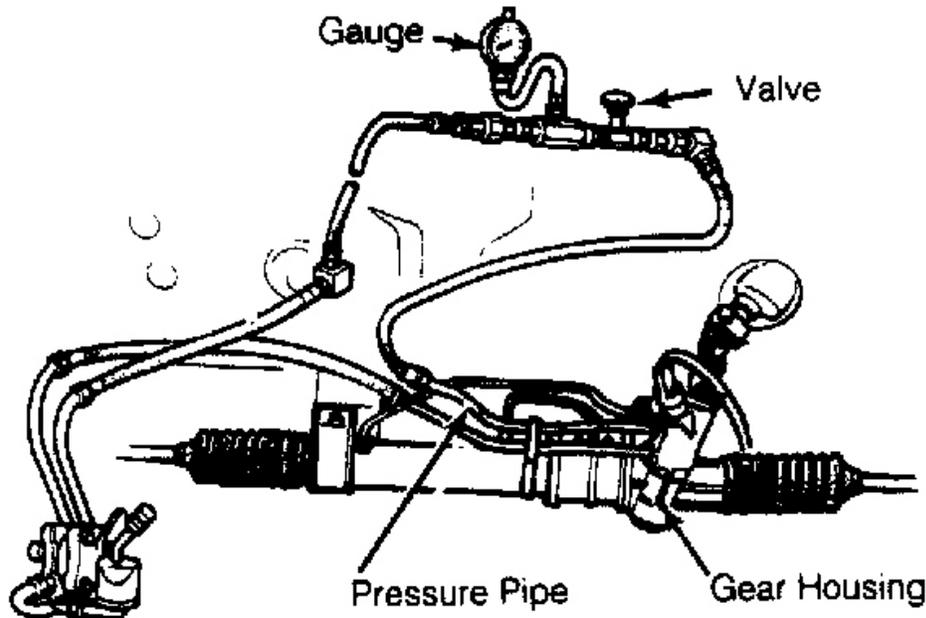

Fig. 1: Connecting Pressure Gauge/Valve
1. Disconnect pressure line from steering gear and steering pump. Connect pressure gauge/valve between steering pump and steering gear. See **Fig. 1** . Bleed air from system.